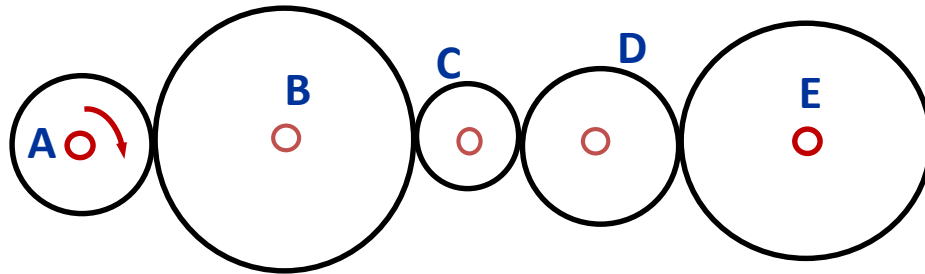

Fig 1
- Draw a top view of sketch of the gear trains shown in Figs 1 and 2;
- Determine the rotating speed and direction of the **output shaft E** of the gear trains shown in Figs 1 and 2. The rotating speed of the **input shaft A** is 2000rpm. The numbers of teeth are $N_A=20$, $N_B=40$, $N_C=15$, $N_D=25$ and $N_E=30$, respectively.